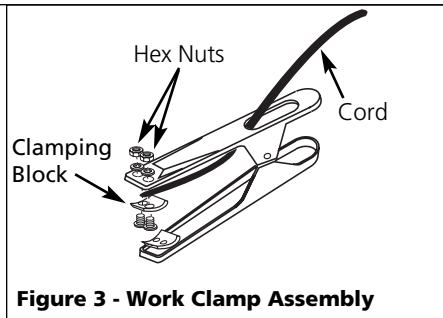

Figure 3 - Work Clamp Assembly
2. Insert cord through clamp handle and slide bare wire under clamping block. Tighten hex nuts, making sure bare wire is clamped securely (Figure 3).